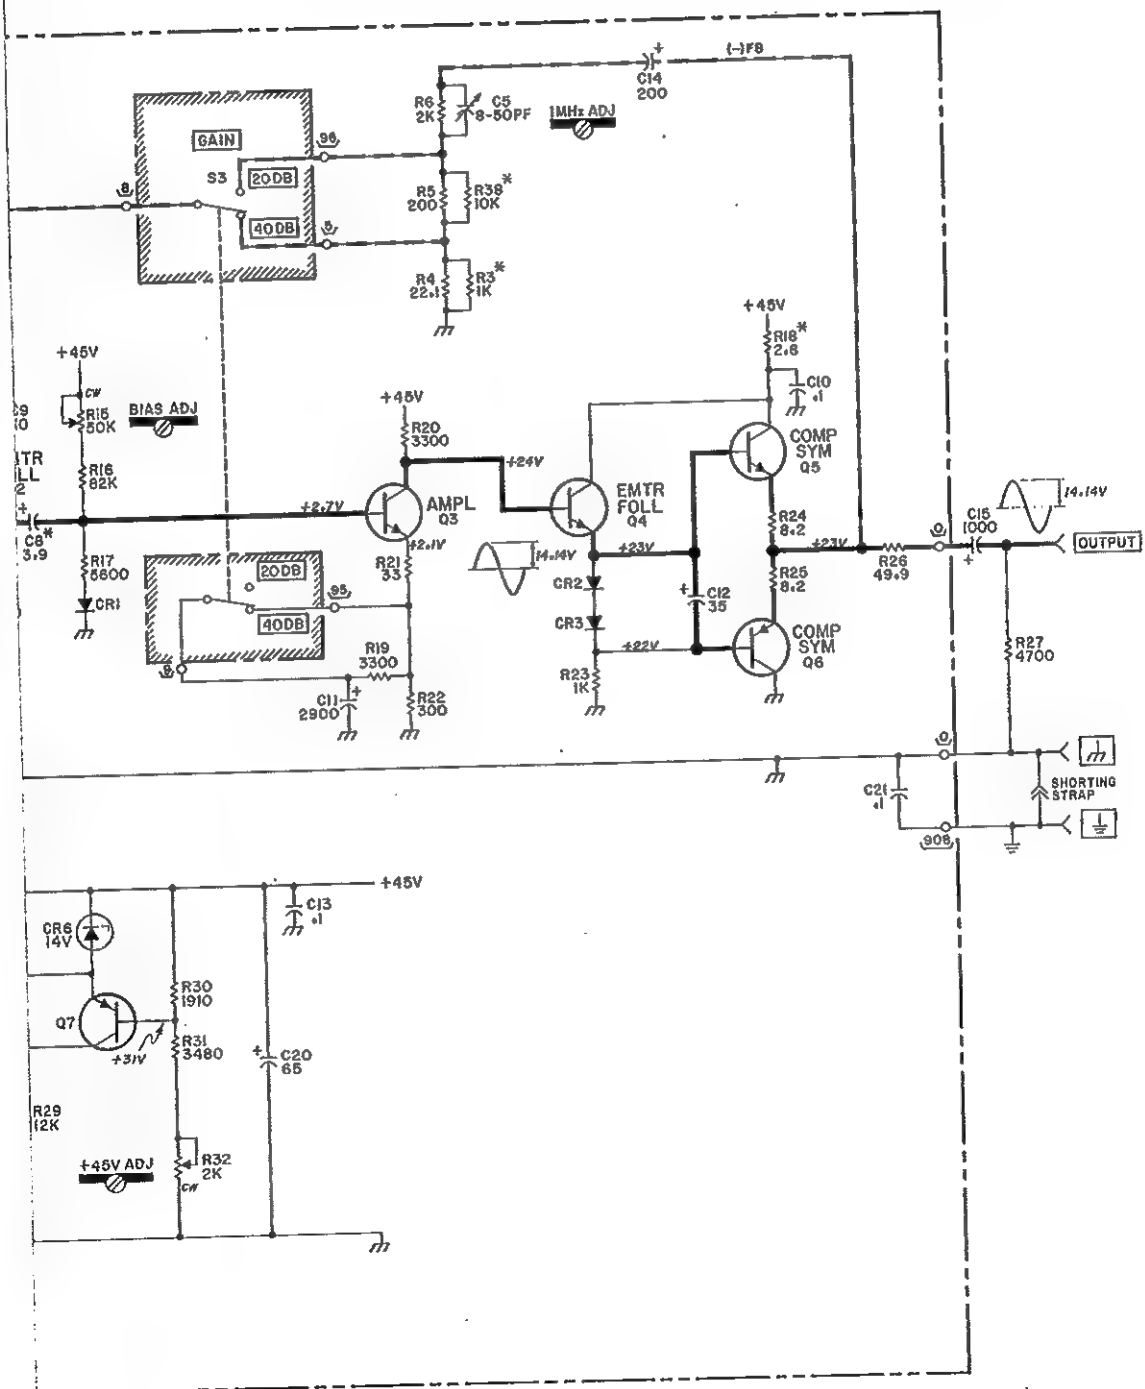

Figure 5-5. Amplifier Schematic
| ① Remove the + side of C14 from the circuit board. Set Model 465A GAIN to 40 db. Apply a 1.0 mV 2 kHz input signal. | ⑦ Check Q4, Q5 and Q6. Refer to Figure 5-5 for typical dc voltage levels. |
| ② Measure the dc voltage at the + side of C20. Should be +45 v (± 1 v). If correct, proceed to ③; if incorrect, go directly to ⑨. | ⑧ Check Q1, Q2 and Q3. Refer to Figure 5-5 for typical dc voltage levels. |
| ⑤ Observe the ac waveform at the junction of R24 and R25. Should be a sine wave with peak voltage approximately 12.7 v (9 v rms). If correct, proceed to ⑥; if incorrect, go directly to ⑦. | ⑪ Check Model 465A power supply to include T1 secondary, Q7, CR6, Q8 and Q9. Refer to Figure 5-5 for typical dc voltage levels. |